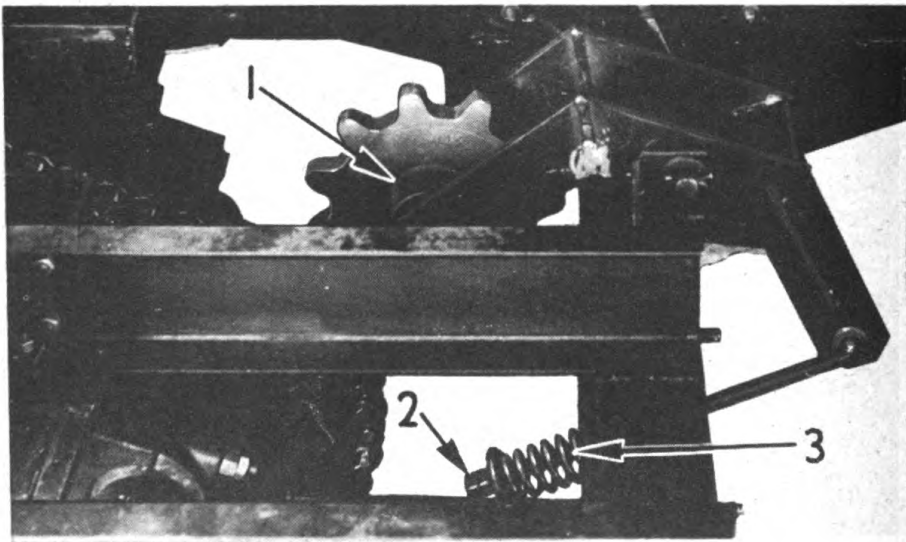

FIG. 31 - "SPRING LOADED IDLER SPROCKET WHICH MAINTAINS CORRECT ADJUSTMENT OF DRUM DRIVE CHAIN."
Proper adjustment of each drum drive chain is maintained by individual spring loaded idler sprockets (1) Fig. 31. To check for proper adjustment, the chain should be observed while the dryer is in operation. When in operation, there should be no slack at any point on either chain. To tighten, loosen lock nuts (2) on threaded take-up rod (3) and turn down on adjusting nut until all slack is removed. Then tighten lock nut.